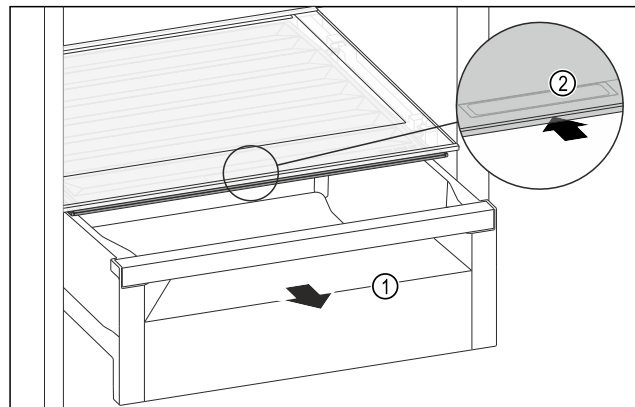

Fig. 107
- ▶ Pull out the drawer Fig. 107 (1).
- ▶ Grasp the recessed grip Fig. 107 (2) on the compartment lid and push the compartment lid backwards at the same time.